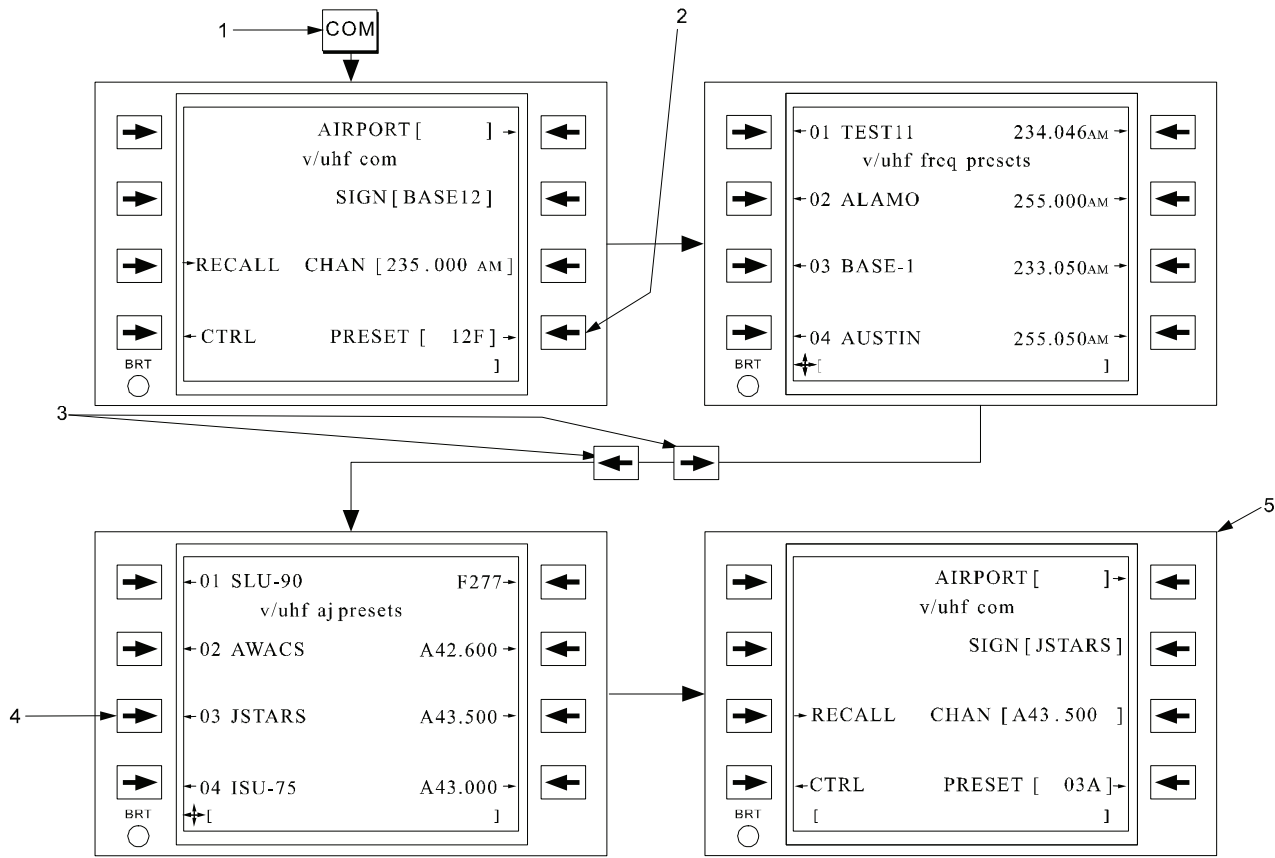

Figure 3B-119. Preset Page Access and Usage
(b) Preset Frequency Tuning. Preset frequencies can be entered manually on the V/UHF preset pages, which can be stored on or loaded from a data cartridge. The FMS-800 maintains one list of 52 presets for the V/UHF radio. To select a preset frequency, either enter the preset number and press line select key 4R on the Communications page, access the V/UHF presets pages and select one of the 52 available presets, or enter the preset callsign and press the appropriate line select key. Once the preset is selected, the preset number is displayed in the preset number field on the Communication page along with the associated callsign. Figure 3B-119 and Table 3B-82 shows how to use the V/UHF presets pages.